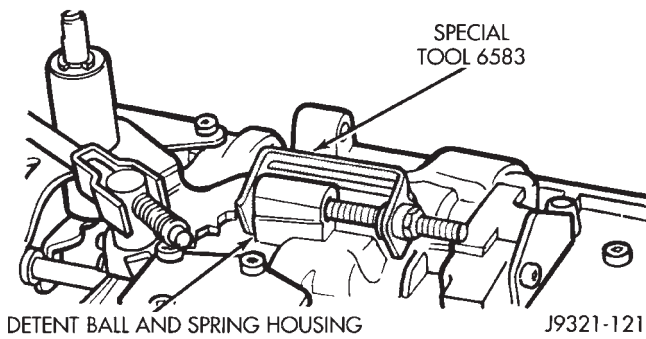

Fig. 41 Securing Detent Ball And Spring With Retainer Tool
- (4) Secure detent ball and spring in housing with Retainer Tool 6583 (Fig. 41).